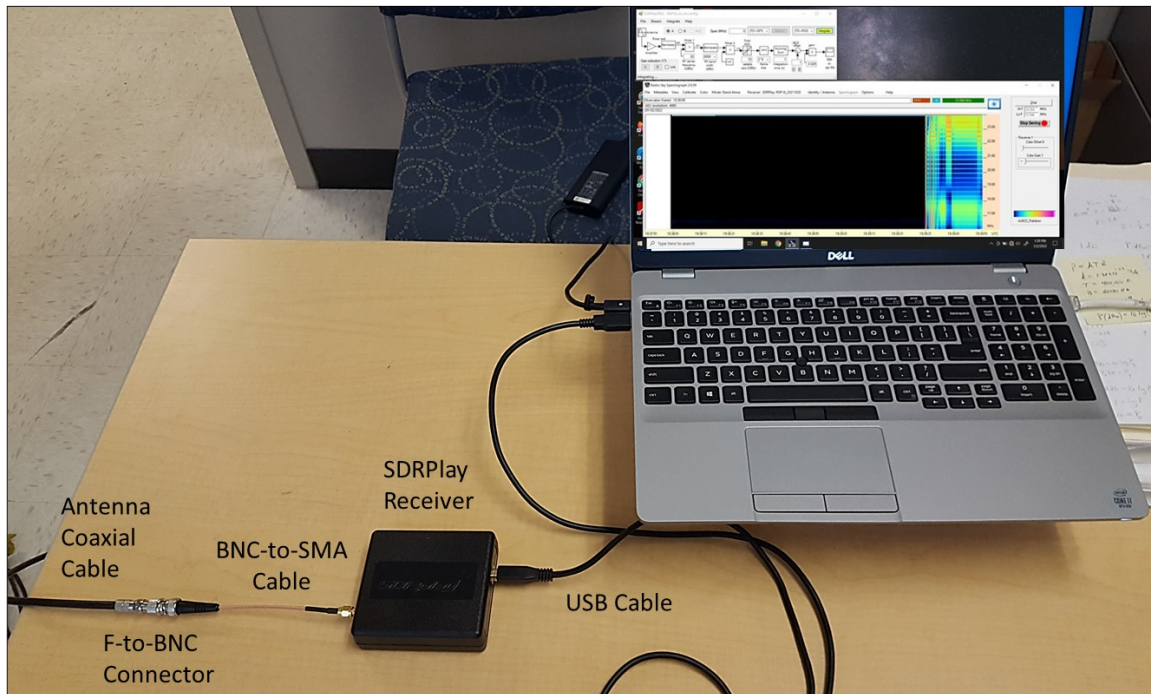

Figure 7.4. SDRPlay RSP1A receiver connections and setup with computer.
2. Connect all cables to the receiver as shown in Figure 7.4.